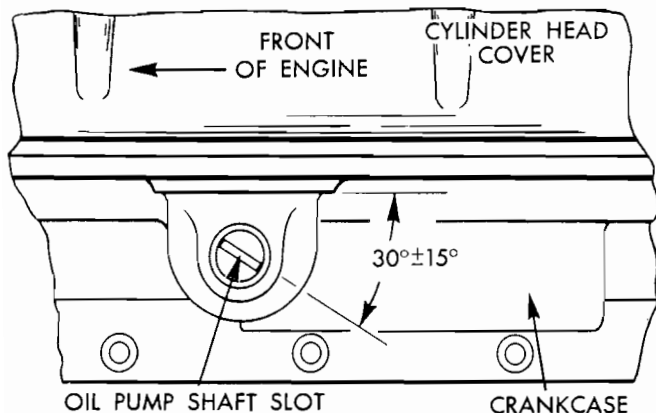

Fig. 32
3. Install idler gear on idler gear shaft. Install gasket and oil pump body cover, and install four capscrews and lockwashers. Test oil pump body gear and play to cover by using a feeler gauge between oil pump spiral gear hub and oil pump body. End play must be from .0025"-.0055". If clearance is in excess of .0055", remove one gasket from cover. If clearance is less than .002", add one gasket between cover and body. Recheck end play after making any alterations. Insert oil pump into cylinder block so that slot in top of shaft is 30° angle to the side of the engine with the No. 1 piston in firing order (Fig. 32).